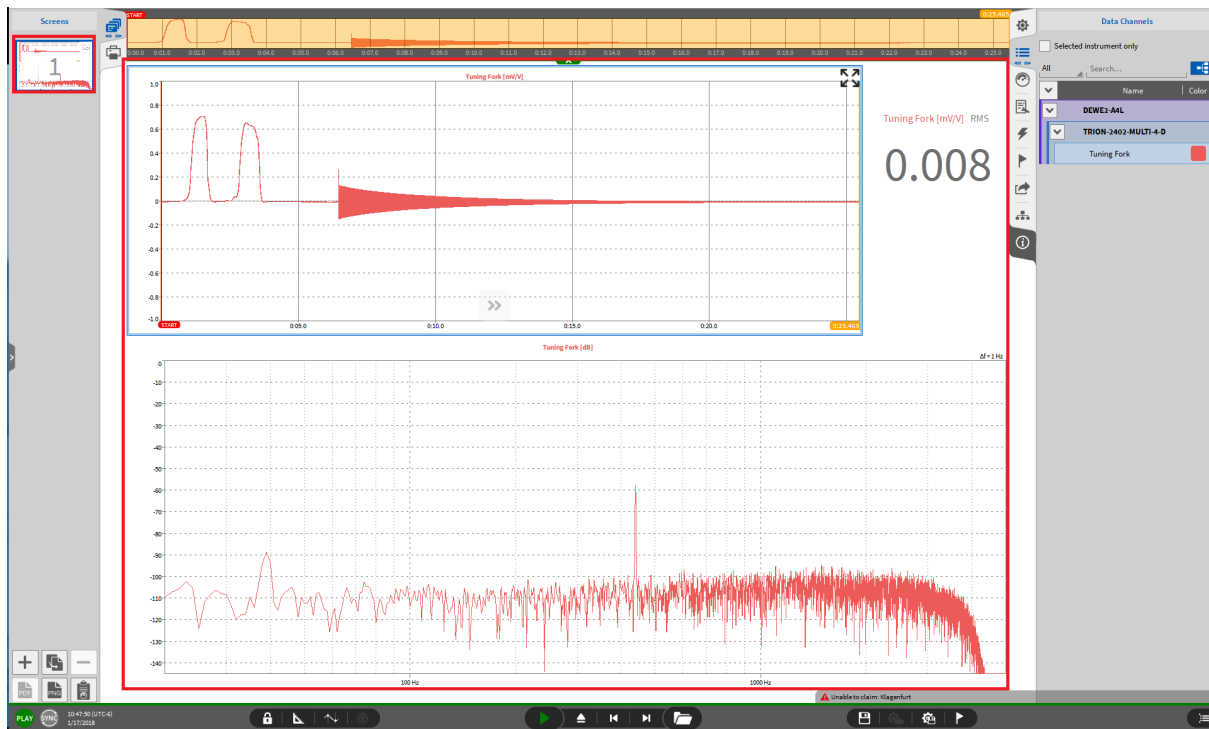

Fig. 14.2: Display the measurement screen that shall be copied to the report
- Select the desired measurement screen within the screens menu and display it (see Fig. 14.2)